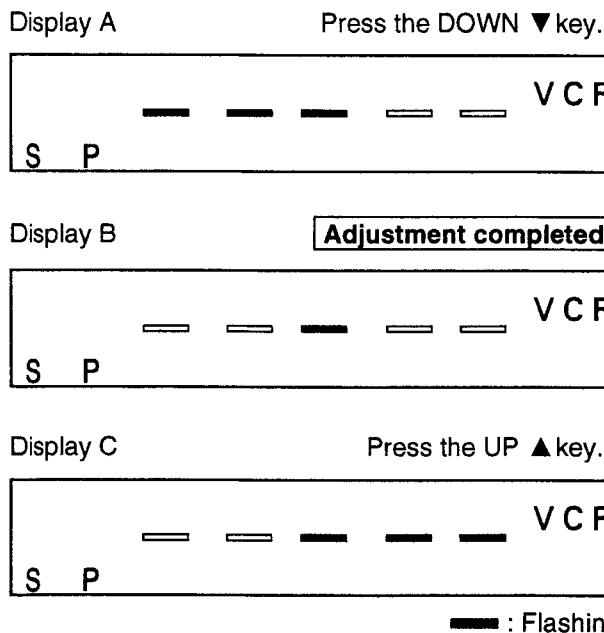

Figure 2
- (2) Playback the test tape and allow the automatic ATR to finish.
- (3) Connect the lead attached in step (1) to the Tuner (ETA01) earth line. (Make sure that the lead can not come loose.)
- (4) Adjust the display for FIP (H701) with the CH UP/DOWN ($\blacktriangle/\blacktriangledown$) keys until it is as shown in Figure 2 Display B below.
- (5) Remove the lead.